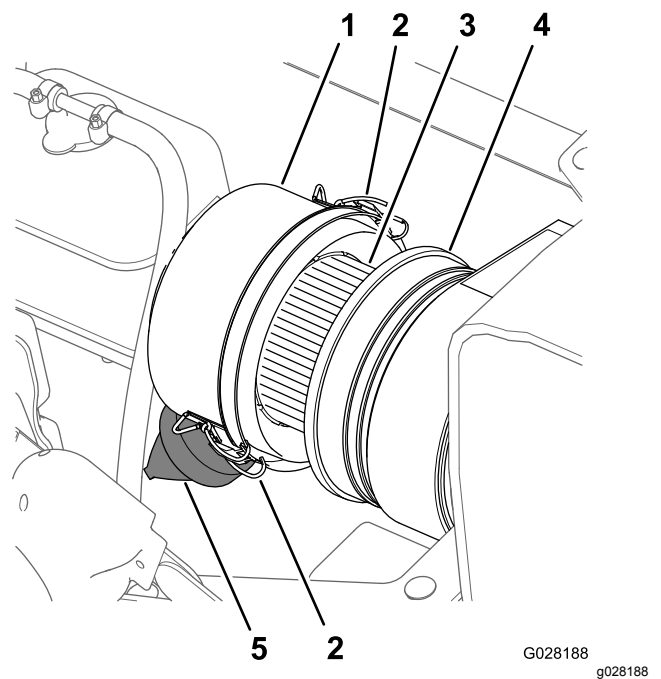

Figure 66
3. Clean the dust cap and air-cleaner body (Figure 66).
4. Check the air-cleaner body for damage that could cause an air leak (Figure 66).
5. Squeeze the dust valve to clear it of dirt, dust, and debris (Figure 66).
7. Check the air-filter element for excessive accumulation of dust, dirt, and debris (Figure 66).
8. Install the dust cap onto the air-cleaner body and secure the cap with the 2 latches (Figure 66).
2. Clean the dust cap and air-cleaner body (Figure 66).
6. Clean the inside of the dust cap, air-cleaner body, and dust valve with a damp rag (Figure 66 and Figure 67).